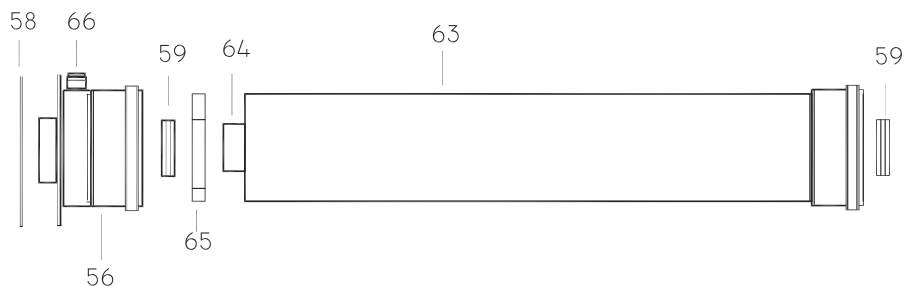

Fig. 19
If an extension must be shortened, this must be done from the straight end, and not from the widened or tapered end. To measure the pipe properly all components must be assembled and total length measured before cutting. The straight end of the extension connects to the boiler. The flue output pipe fits into the boiler header until it stops. The air intake pipe should be located approximately 2 mm. from the boiler header (fig. 19).
**5.7.8** Extension kits are available to order for flue extension of up to 2.5 metres total length (Fig. 19). For further details see sect 5.5.9.